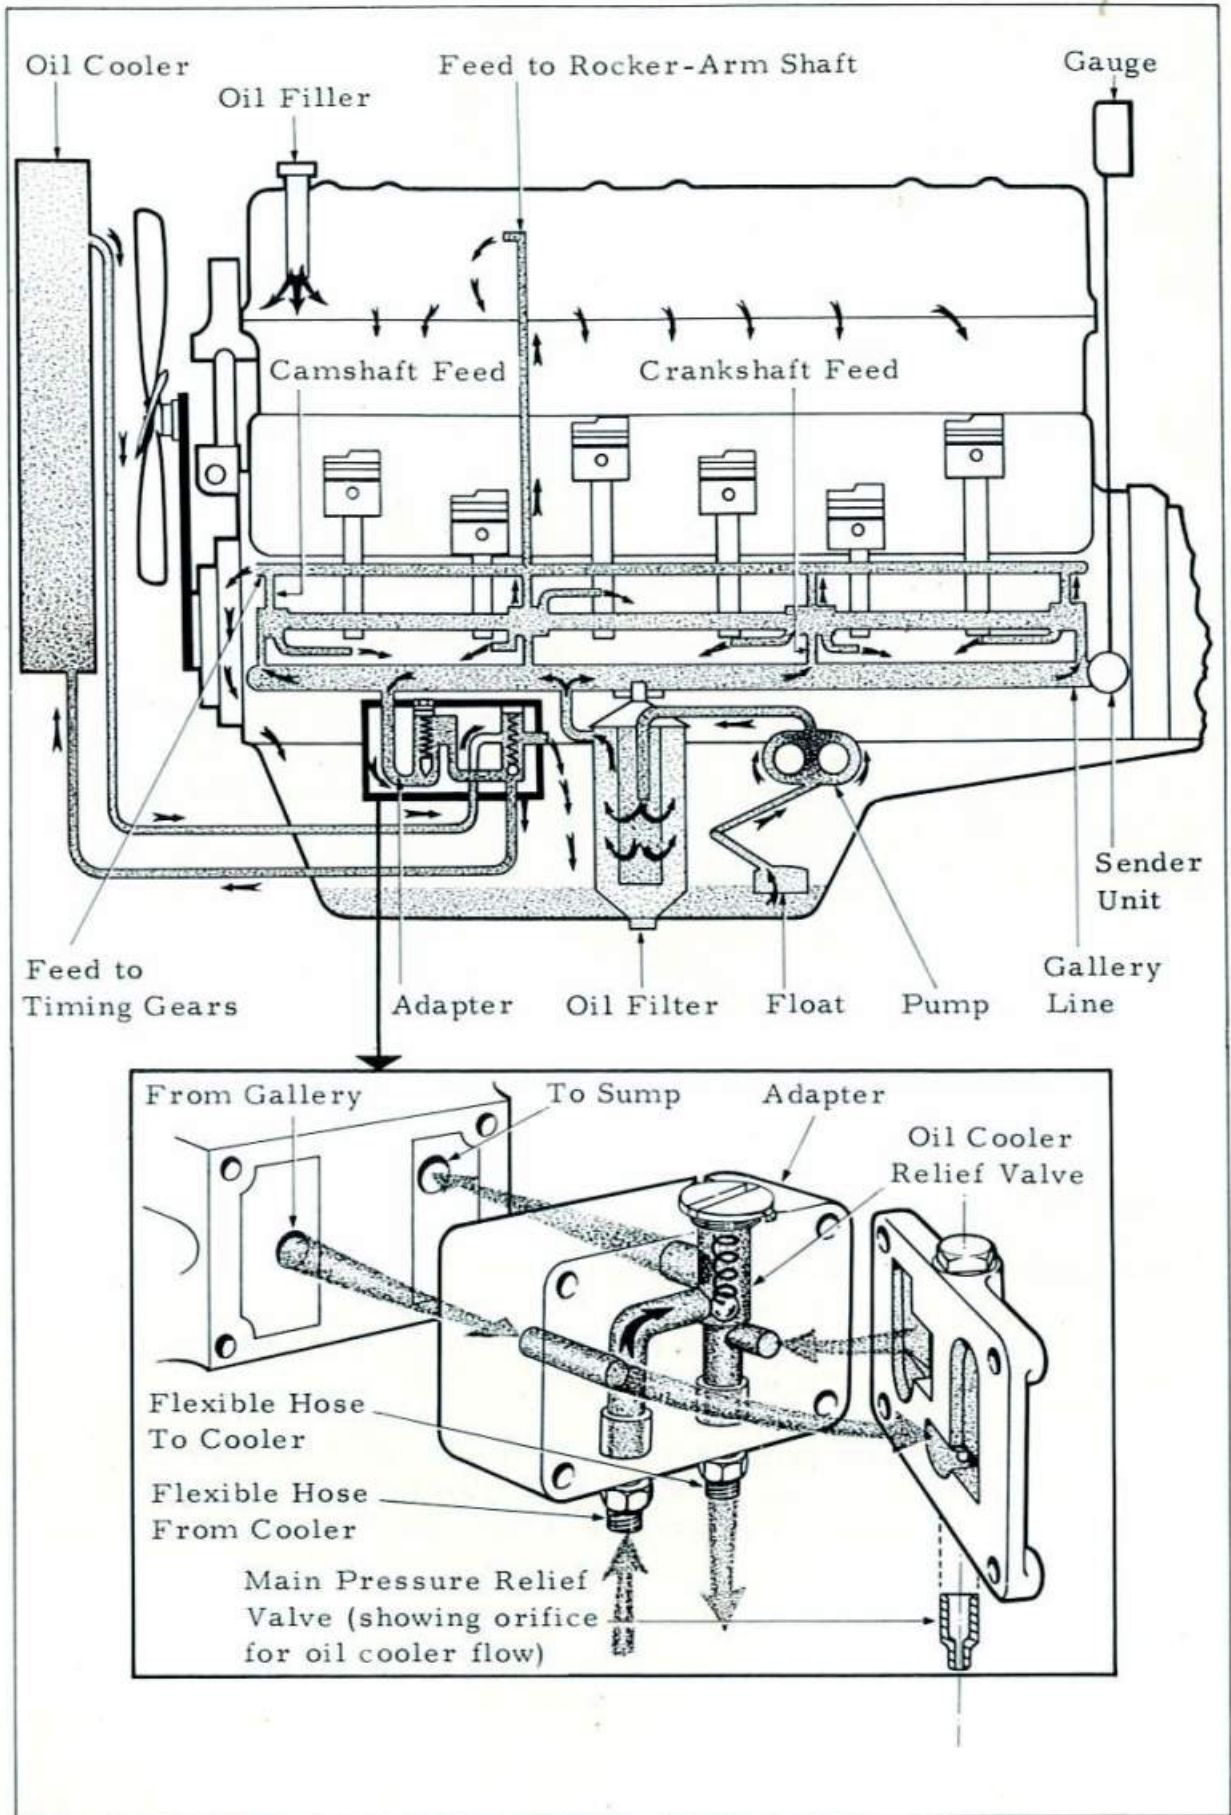

FIG 24
134. The engine lubrication system is illustrated in Fig 24. It is of the wet sump type with a total oil capacity of 9.6 litres (1.4 litres being held in the oil filter).
- c. Drain the oil cooler by disconnecting the flexible oil hose at the base of the oil adapter (see Fig 24).